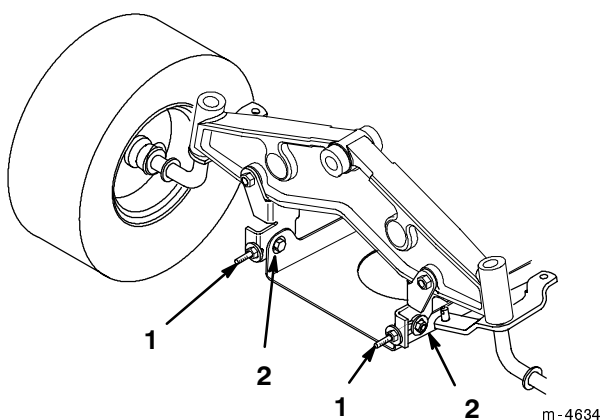

Figure 51
5. To adjust front-to-rear blade slope loosen front pivot plate mounting bolts slightly (Fig. 51).
6. Rotate lock nuts on eyebolts to change adjustment (Fig. 51). To raise the front of the mower tighten the eyebolt lock nuts. To lower the front of the mower loosen the eyebolt lock nuts.
8. When front-to-rear slope is correct, tighten the pivot plate mounting bolts (Fig. 51).